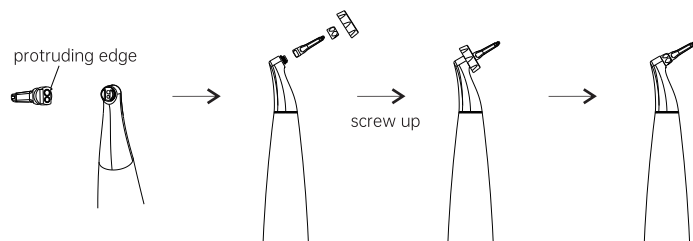

Figure 8 Installation of Periodontal Nozzle
1. Install the periodontal nozzle before use, take the nozzle and assemble it to the top of the handpiece according to the positioning direction, then use the wrench to lock the locking cap to the nozzle. (See Figure 8)